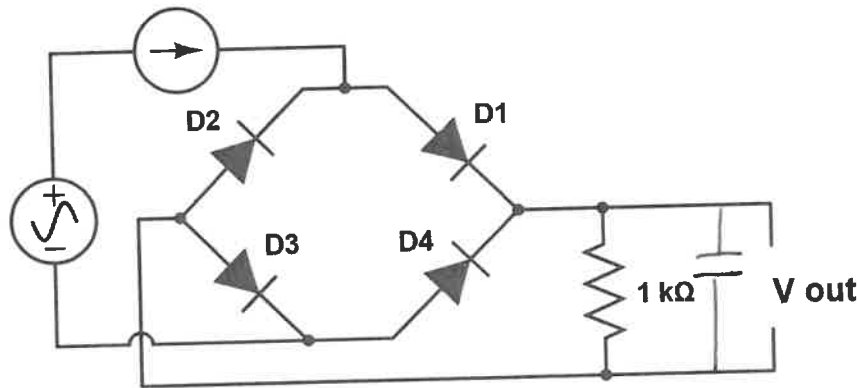

Figure 14: Circuit diagram of a bridge rectifier.
The circuit diagram can be expanded on to make a bridge rectifier that outputs full-wave rectified DC voltage as shown in Figure 14.
e) A certain component can be used to smooth the output voltage. Add the necessary component to the circuit diagram in Figure 14.